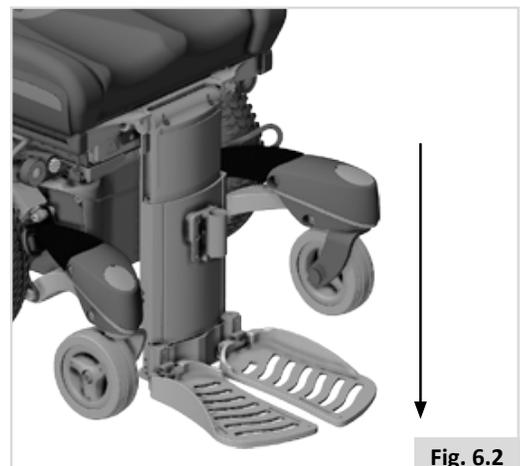

Fig. 6.2
- Push the joystick forward until the footplates rest fully on the ground, Figure 6.2.